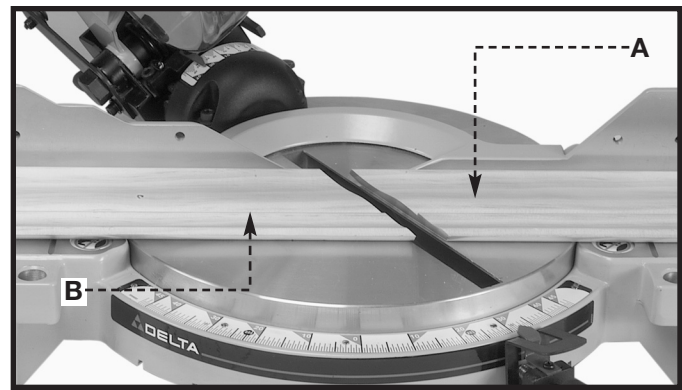

Fig. 43
3. Place the crown molding on the table with the **CEILING EDGE** of the molding against the fence, and make the cut (Fig. 43).
NOTE: The piece of crown molding used for the outside corner will always be on the right hand side of the blade (A) Fig. 43. The piece of crown molding used for the inside corner will always be on the left hand side of the blade, (B) Fig. 43.